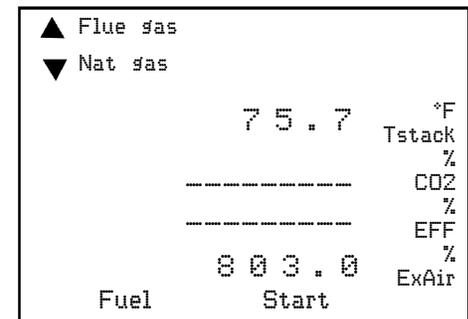

fig 5.
Step 4 - Select Measuring Mode see fig 5
✓ **Flue Gas Measuring Mode Screen Displayed (fig. 5)**